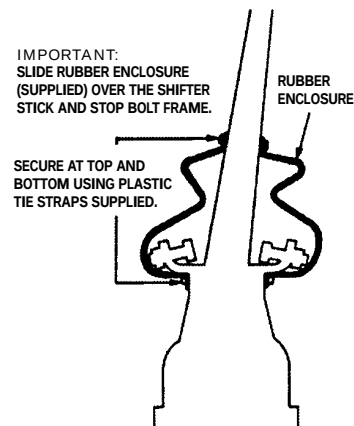

FIG. 11
18. Remove knob from shifter stick. Slide rubber enclosure (supplied) over the shifter stick and stop bolt frame. Secure at top and bottom using plastic tie straps supplied. (Refer to fig. 11). **IMPORTANT! This rubber enclosure must be installed to prevent dirt and moisture from entering shifter base housing which can cause premature wear of shifter.**